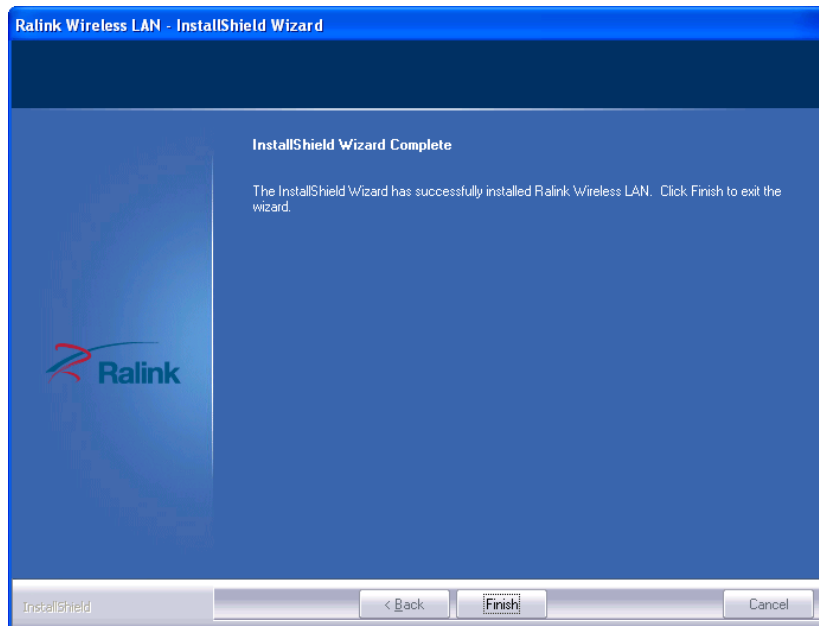

Figure 5-37: Installation Complete
Step 12: When the driver installation is complete, the screen in **Figure 5-37** appears.